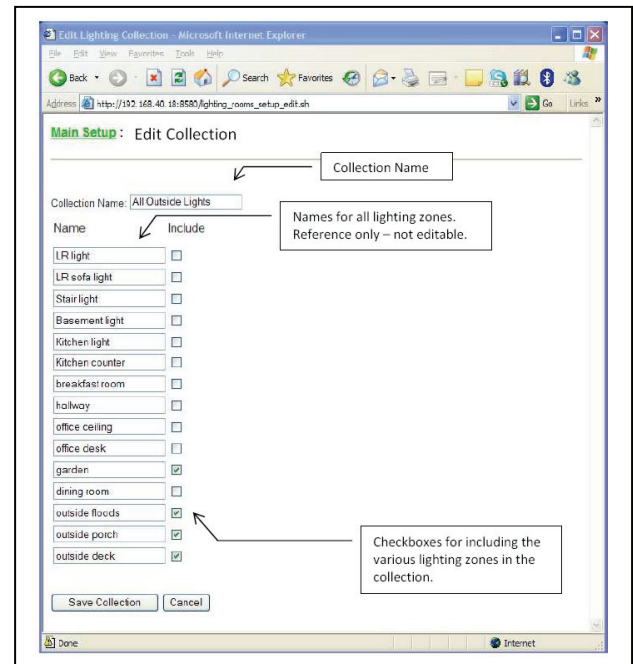

Figure 6
- E. Selecting “Collections” allows you to create up to 10 collections of loads (like “Outside Lights”) so that all of the items in the collection may be controlled at one time. You simply check the box next to all the named loads that you want to include in that collection (see **Figure 6**).